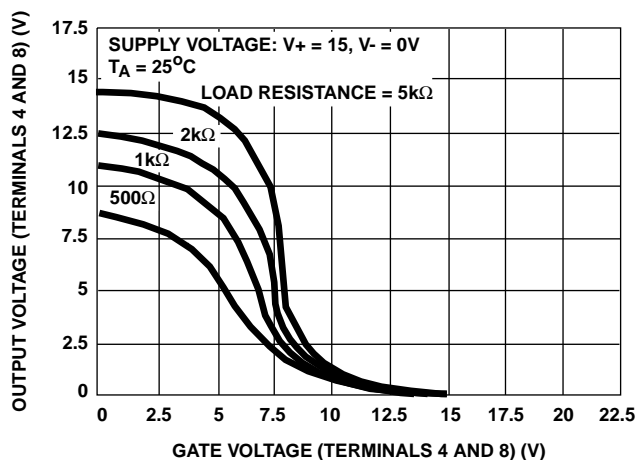

FIGURE 2. VOLTAGE TRANSFER CHARACTERISTICS OF CMOS OUTPUT STAGE
The output stage consists of a drain-loaded inverting amplifier using CMOS transistors operating in the Class A mode. When operating into very high resistance loads, the output can be swung within millivolts of either supply rail. Because the output stage is a drain-loaded amplifier, its gain is dependent upon the load impedance. The transfer characteristics of the output stage for a load returned to the negative supply rail are shown in Figure 2. Typical op amp loads are readily driven by the output stage. Because large-signal excursions are non-linear, requiring feedback for good waveform reproduction, transient delays may be encountered. As a voltage follower, the amplifier can achieve 0.01% accuracy levels, including the negative supply rail.
**Single-supply Operation:** Initially, let it be assumed that the value of  $R_L$  is very high (or disconnected), and that the input-terminal bias (Terminals 2 and 3) is such that the output terminal (No. 6) voltage is at  $V+/2$ , i.e., the voltage drops across  $Q_8$  and  $Q_{12}$  are of equal magnitude. Figure 20 shows typical quiescent supply-current vs supply-voltage for the CA3130 operated under these conditions. Since the output stage is operating as a Class A amplifier, the supply-current will remain constant under dynamic operating conditions as long as the transistors are operated in the linear portion of their voltage-transfer characteristics (see Figure 2). If either  $Q_8$  or  $Q_{12}$  are swung out of their linear regions toward cut-off (a non-linear region), there will be a corresponding reduction in supply-current. In the extreme case, e.g., with Terminal 8
Let it now be assumed that a load-resistance of nominal value (e.g.,  $2k\Omega$ ) is connected between Terminal 6 and ground in the circuit of Figure 6B. Let it be assumed again that the input-terminal bias (Terminals 2 and 3) is such that the output terminal (No. 6) voltage is at  $V+/2$ . Since PMOS transistor  $Q_8$  must now supply quiescent current to both  $R_L$  and transistor  $Q_{12}$ , it should be apparent that under these conditions the supply-current must increase as an inverse function of the  $R_L$  magnitude. Figure 22 shows the voltage-drop across PMOS transistor  $Q_8$  as a function of load current at several supply voltages. Figure 2 shows the voltage-transfer characteristics of the output stage for several values of load resistance.